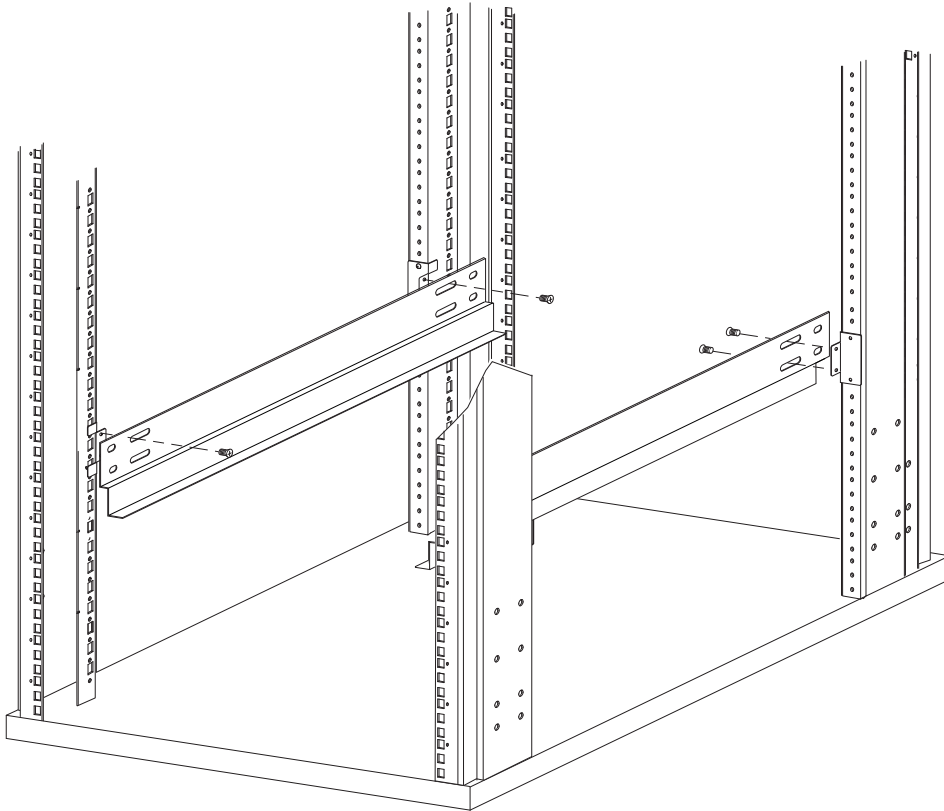

Figure 3: Shelf brackets mounted in HP 9000, 10000 and 11000 series rack
7. Attach two shelf brackets to the angle brackets on each side of the cabinet using eight pan head screws and a #2 Phillips head screwdriver as shown in Figure 3.